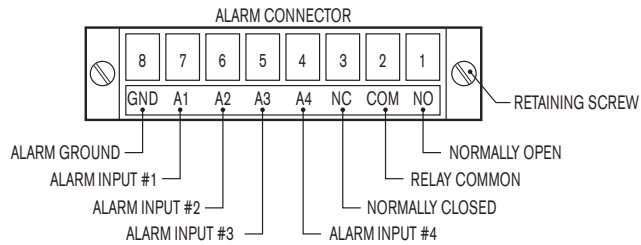

Figure 4
5.4.2.4. If the Alarm inputs or contact output are being used, connect the appropriate stripped wires to the 8-pin Alarm connector per FIGURE 4.
NOTE: The Alarm inputs must be connected to a Normally Open dry contact. To activate the Alarm input, the contact must close between the appropriate Alarm Input and the Alarm Ground, pin #8. For example, to activate Alarm Input #1, the relay must close between pins 7 & 8, (see FIGURE 4).